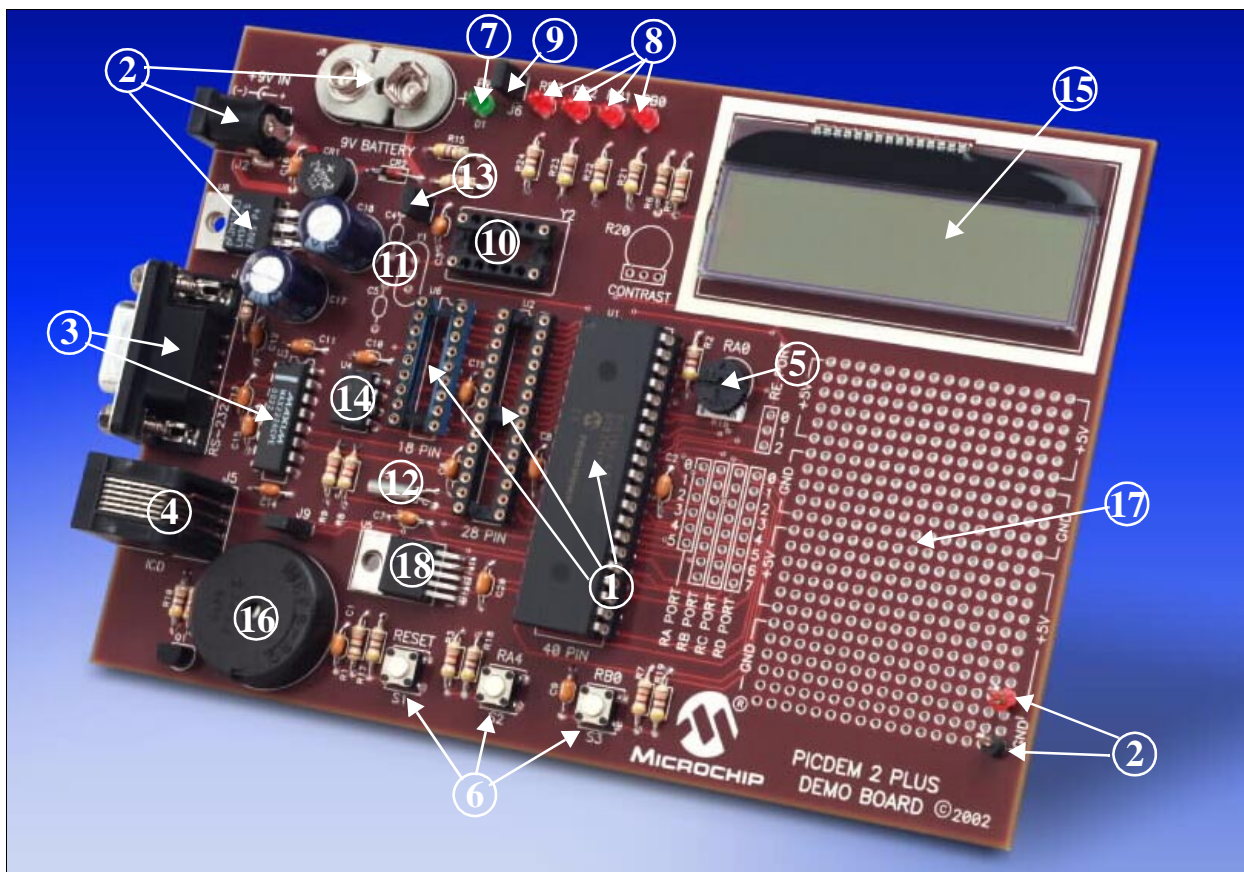

Figure 1.1: PICDEM 2 Plus Hardware
1. PICDEM 2 Plus Demonstration Board (Figure 1.1)